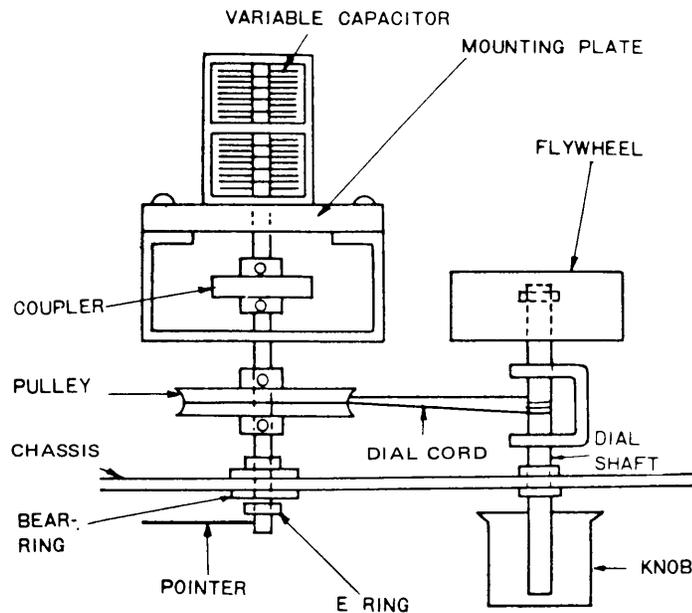

Fig. 14. Removal of dial mechanism.
5. REMOVAL OF DIAL MECHANISM (See Fig. 14)
When the front panel is removed and the top cover is removed from the shielding case, the dial drive mechanism is exposed, as shown in Fig. 14. Proceed as follows: